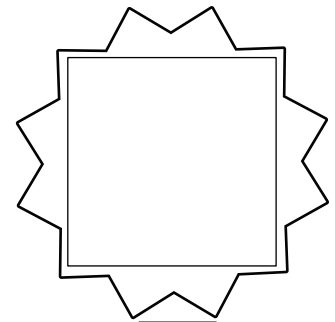

Figure 4
1. Tighten retaining nut on inside of mounting plate and adapter as far as it will go by hand, then back off retaining nut one notch until star pattern lines up with square corners. (Figure 4)